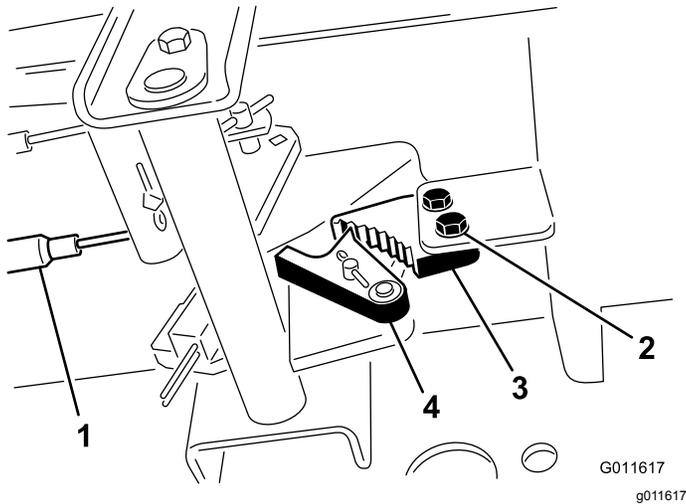

Figure 86
1. Loosen the 2 screws securing the parking-brake pawl to the frame (Figure 86).
2. Press the parking-brake pedal forward until the brake detent completely engages on the brake pawl (Figure 86).